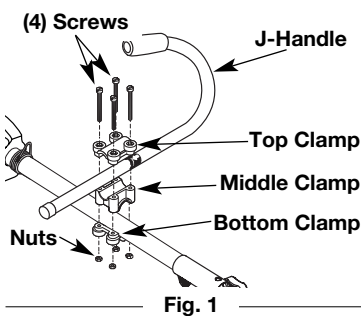

Fig. 1
1. Place the J-handle between the top and middle clamp pieces (Fig. 1).
2. While holding the three pieces together, install the four (4) screws through the top clamp and into middle clamp.